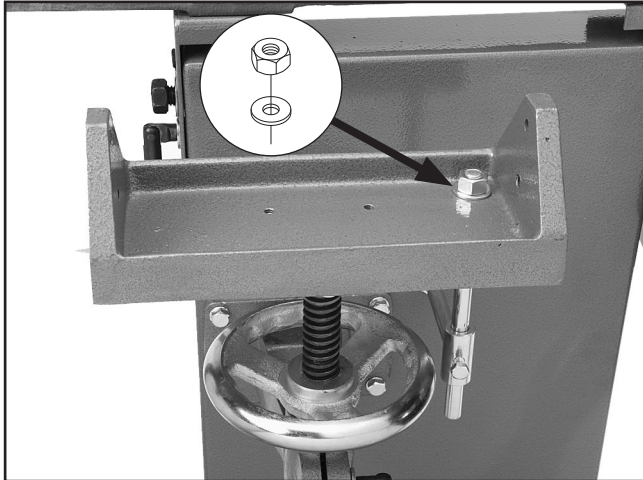

Figure 20. Table bracket top secured.
10. Now install a $\frac{1}{2}$ "-13 hex nut and flat washer onto the shaft end (**Figure 20**). Thread the handwheel down until it touches the top of the leadscrew bracket.